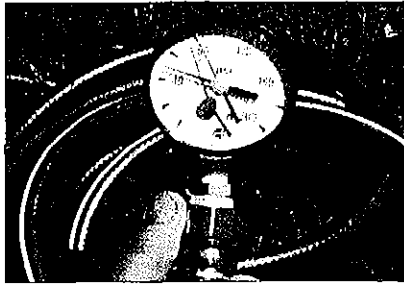

Figure 4 - Use a Water Pressure Gauge to make sure your home's water pressure is not too high.
- Water Pressure Gauge (see next page, figure 4)
We recommend checking your home's water pressure with a pressure gauge (figure 4). Most codes allow a maximum incoming water pressure of 80 psi. We recommend a working pressure no higher than 50-60 psi.